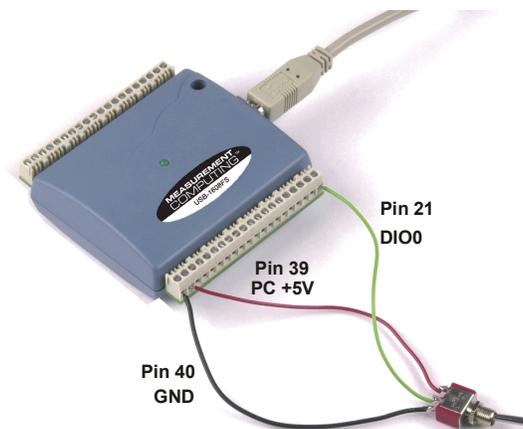
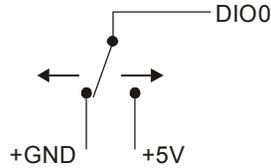

Figure 3-5. Digital connection DIO0 detecting the state of a switch
Figure 3-6. Schematic showing switch detection by digital channel DIO0
When you configure the digital bits for input, you can use the USB-1608FS digital I/O terminals to detect the state of any TTL-level input. Refer to the switch circuit shown in Figure 3-5 and the schematic shown in Figure 3-6. If you set the switch to the +5 V input, DIO0 reads *TRUE* (1). If you move the switch to GND, DIO0 reads *FALSE* (0).